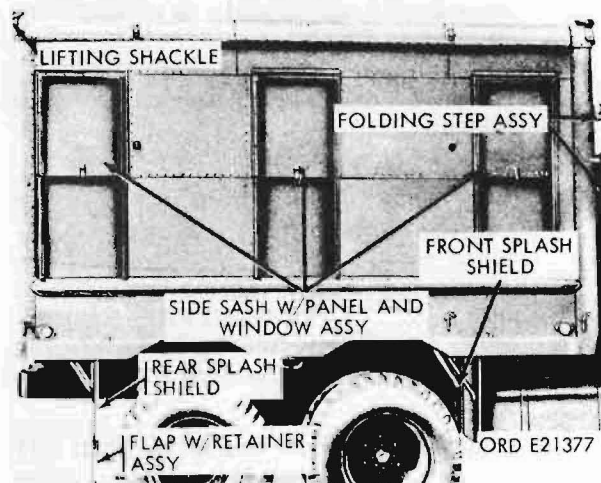
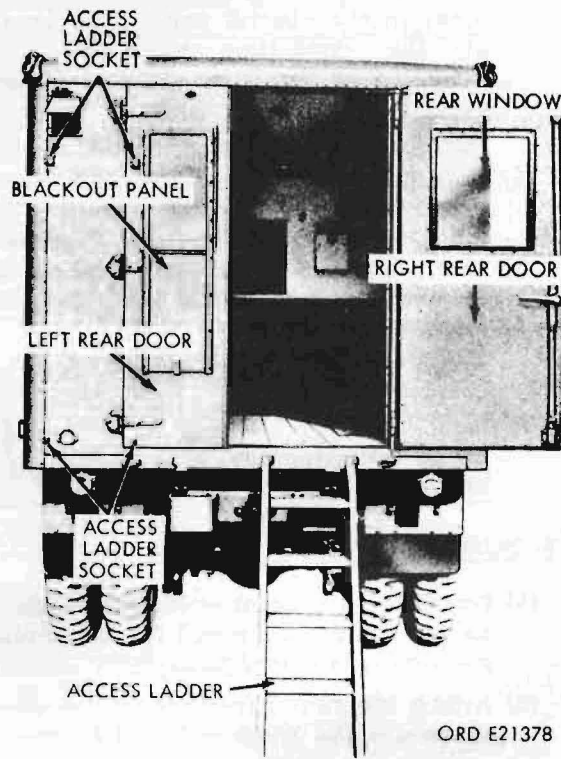
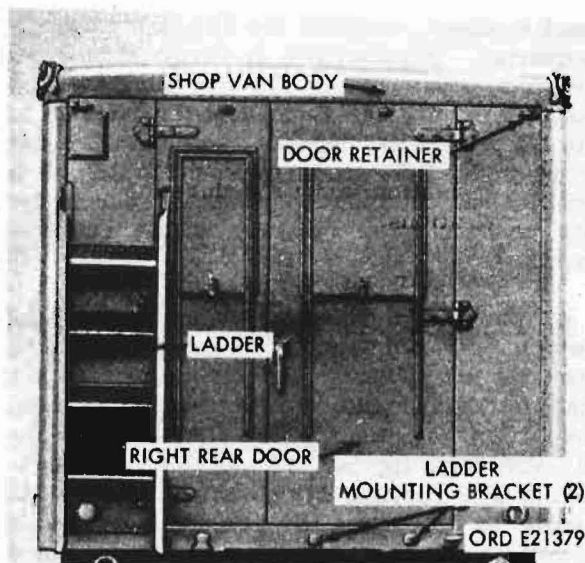

Figure 129. Shop van body assembly - right side view
Figure 130. Shop van body - right rear door open
Figure 131. Access ladder - stowed position
a. **Body.** The fabricated steel body (fig. 129), is of insulated steel panel construction. On
newer production models, access to the roof of the body is provided by four folding step assemblies (fig. 129). A stepladder is provided for entering and leaving the body (fig. 130), and is stowed in four sockets (fig. 130) when not in use (fig. 131). A communication door
assembly is located in the upper left corner of the front wall of the van. Eight-foot long wiremold bases, with five receptacles in each, are installed over the windows on each side of the body for plugging in electrical equipment such as power tools. Rear door blackout switches, mounted above the rear doors on the inside of the body, automatically turn off all dome lights except the 115-volt blackout dome light when the right rear door is opened. Lifting shackles (fig. 129), capable of supporting a fully loaded body, are installed on the roof, one on each corner. The body is equipped with an exhaust blower with duct and damper for body ventilation. Five 115-volt, and two 24-volt interior dome lights are provided, as well as one 115-volt blackout dome light with a blue lens.
b. Window Assemblies. Three pushout-type sash assemblies (fig. 129) are provided on each side of the body. Each side sash assembly contains an insect screen, a double-pane window with weatherseal, and a blackout panel. One fixed-type sash assembly, complete with blackout panel, is provided in the front of the body.
c. Rear Door Assemblies. Two rear doors (fig. 130) are provided for entrance and exit. Each door assembly is attached to the body with three hinge assemblies, and is held open